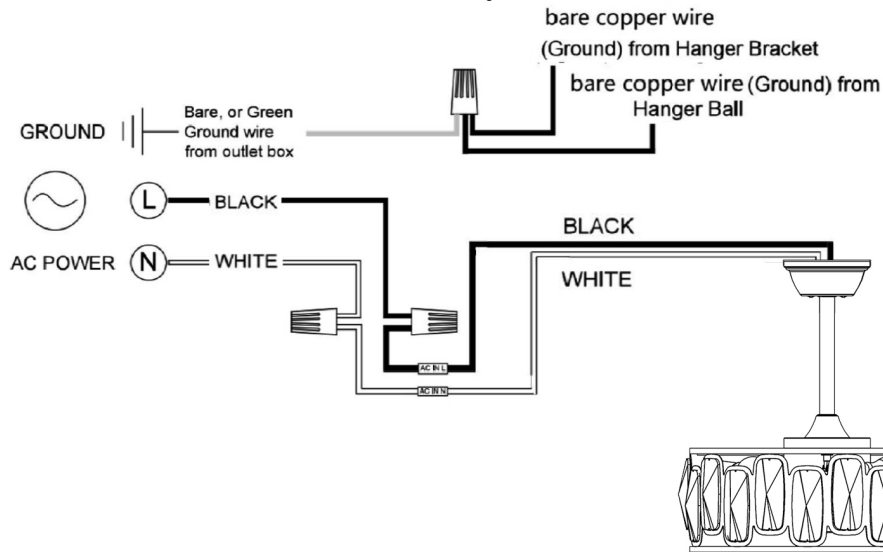

Figure 1
- 1. Loosen the set screw in the hanger ball assembly until the hanger ball slides off the downrod. Remove the pin from the downrod, then remove the hanger ball. Retain the pin and hanger ball for installation in Step 6.(Figure 1)